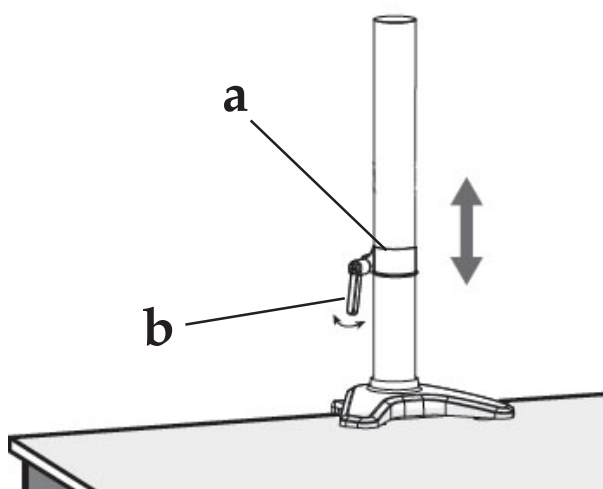

Figure 2a
3. Install the Position Ring (a) at the desired height and tighten the screw (b), see Figure 2a.